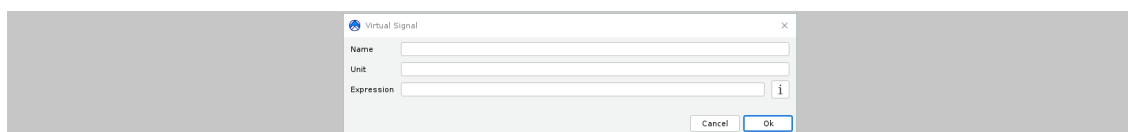

Figure 14: The Virtual Signals window
4. In the window that opens (see Figure 14), make the desired changes.